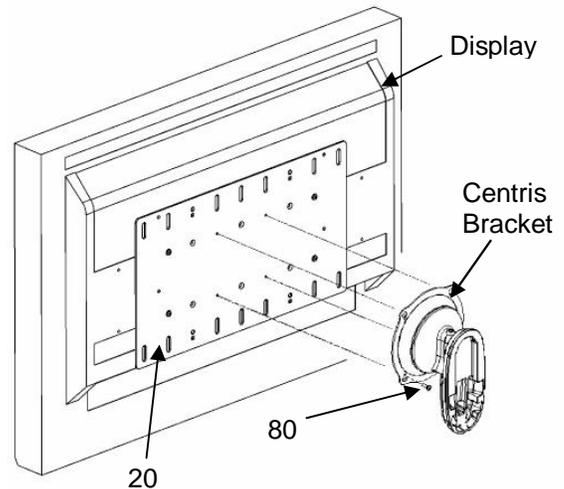

Figure 11. Attach Display to Mount
1. Select four Phillips head M4 x 8mm screws (80) from Bag A.
2. Start two M4 x 8mm screws (80, Bag A) into top mounting holes on display (see Figure 11)
4. Install two remaining M4 x 8mm screws (80) from Bag A into the bottom mounting holes on the display.